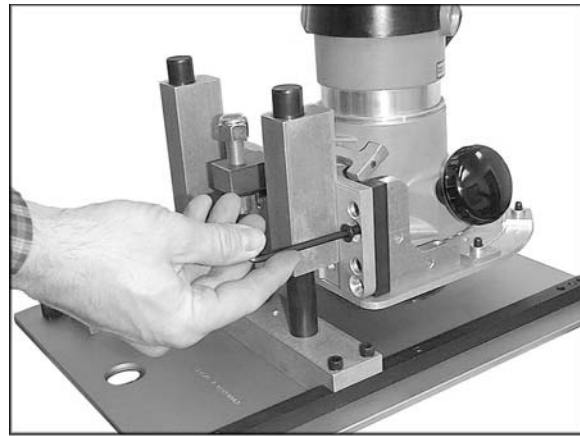

Figure 5
10. Using the 1/4-20 x 1" flat head screws (removed in step 1), re-install the carriage to the Rout-R-Lift (Fig. 5). NOTE: Use the socket head cap screws as locating pins for easier installation of the carriage.